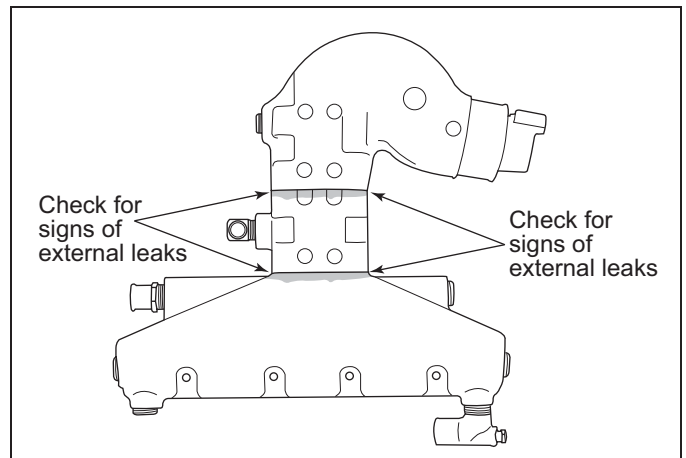

Figure 5-2A Water Leaks
- Cooling system for leaks. If equipped with fresh-water cooling, check coolant level in recovery bottle. Check for signs of water leaks at the exhaust manifolds, risers and elbows (Figure 5-2A). If the water is leaking externally, it is possible that the water is also leaking internally. This could result in internal engine damage. It is very important to service these maintenance items as soon as a problem is indicated. After performing the initial safety checks, proceed as follows to start the engine: